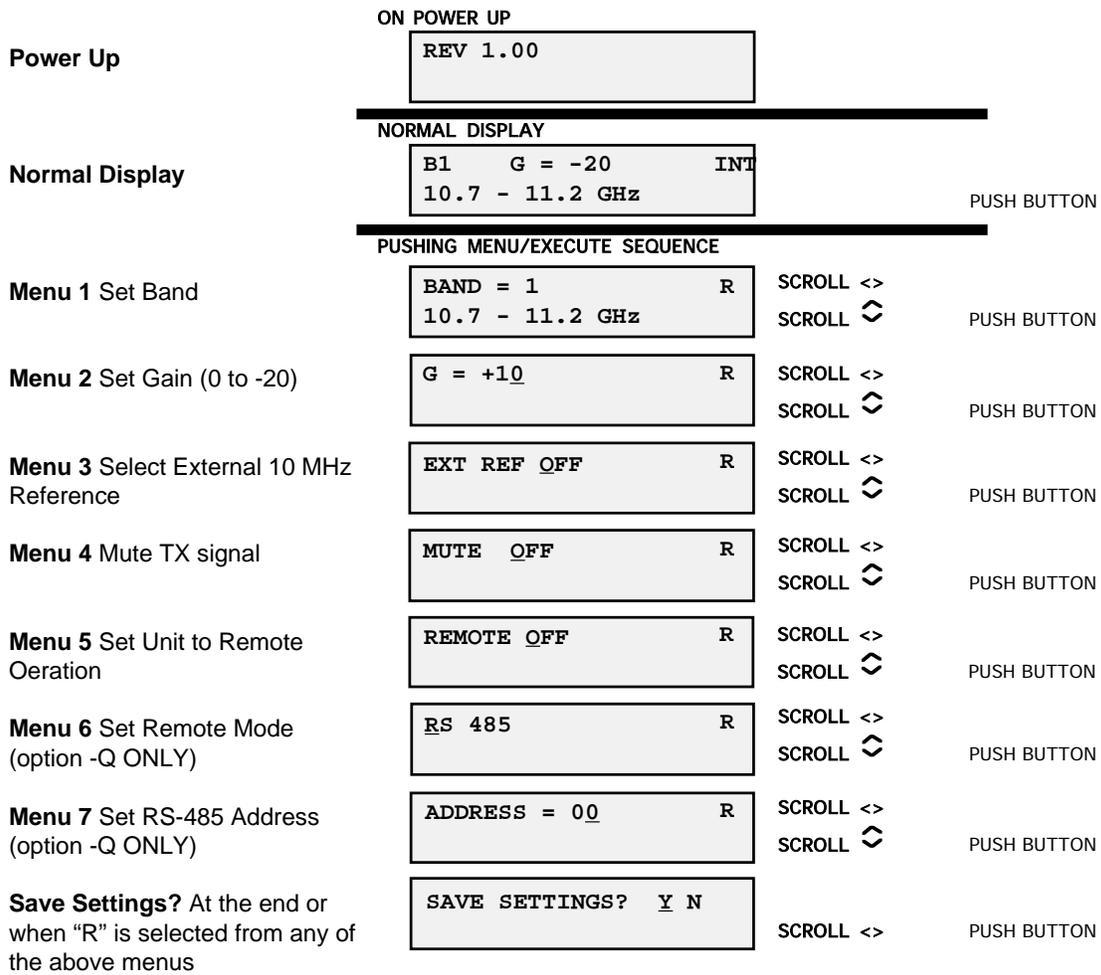

FIGURE 2.5 Menu Display and Sequence
2.5.1 Functions - This section describes operation of the front panel controls. There are three operator switches, the LCD display and alarm indicator LEDs. All functions for the equipment are controlled by these components. The functions are (see Figure 2.5):
Operate the Menu/Execute switch until you get to the menu item you want to change see Figure 2.5 for the sequence of menu options. The following display is for changing the upconverter’s frequency load:
Figure 2.5 shows all the menu items and how to make changes.
Figure 2.5 gives the menu items and how to make changes